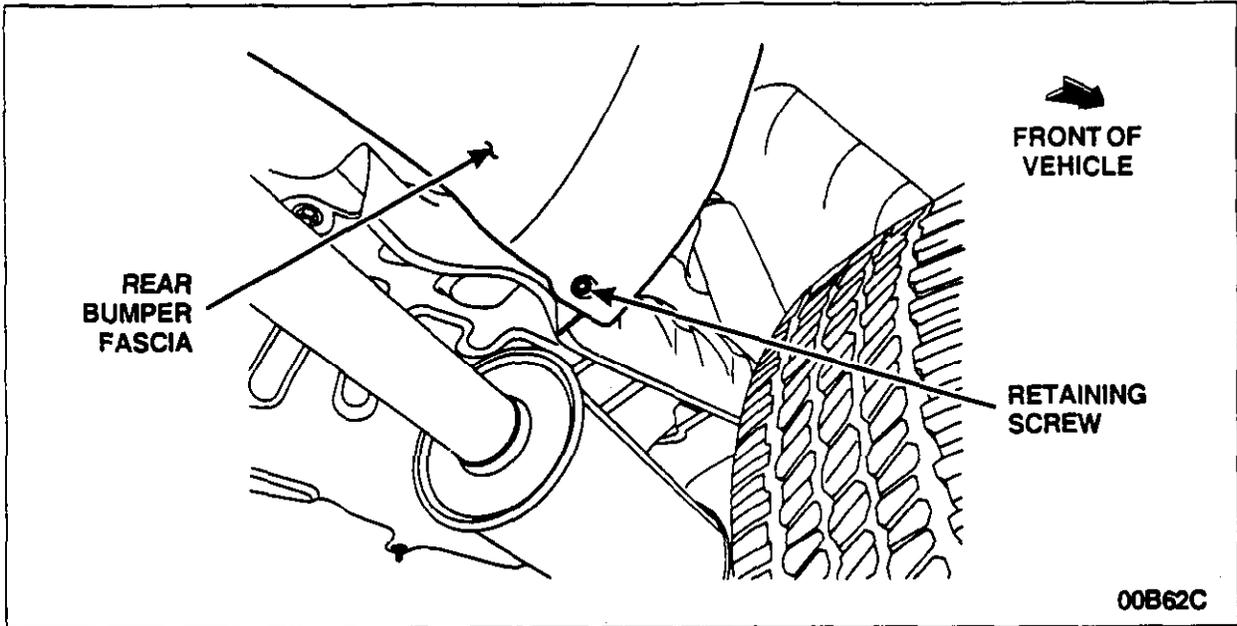

FIGURE 3
1. Remove the retaining bolt shown and retain for reuse. See Figure 3.
5. Install the splash guard, using the removed retaining screw and the retaining screws supplied in the kit. See Figures 3 and 4.